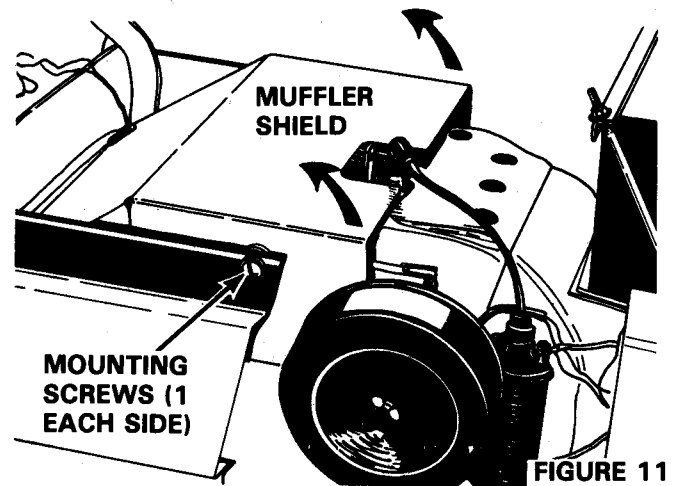

FIGURE 11
8. Reinstall muffler shield under hood. See Figure 11.
3. Remove two rear mounting screws securing muffler shield under hood. Tip forward to expose front of tractor. See Figure 11.